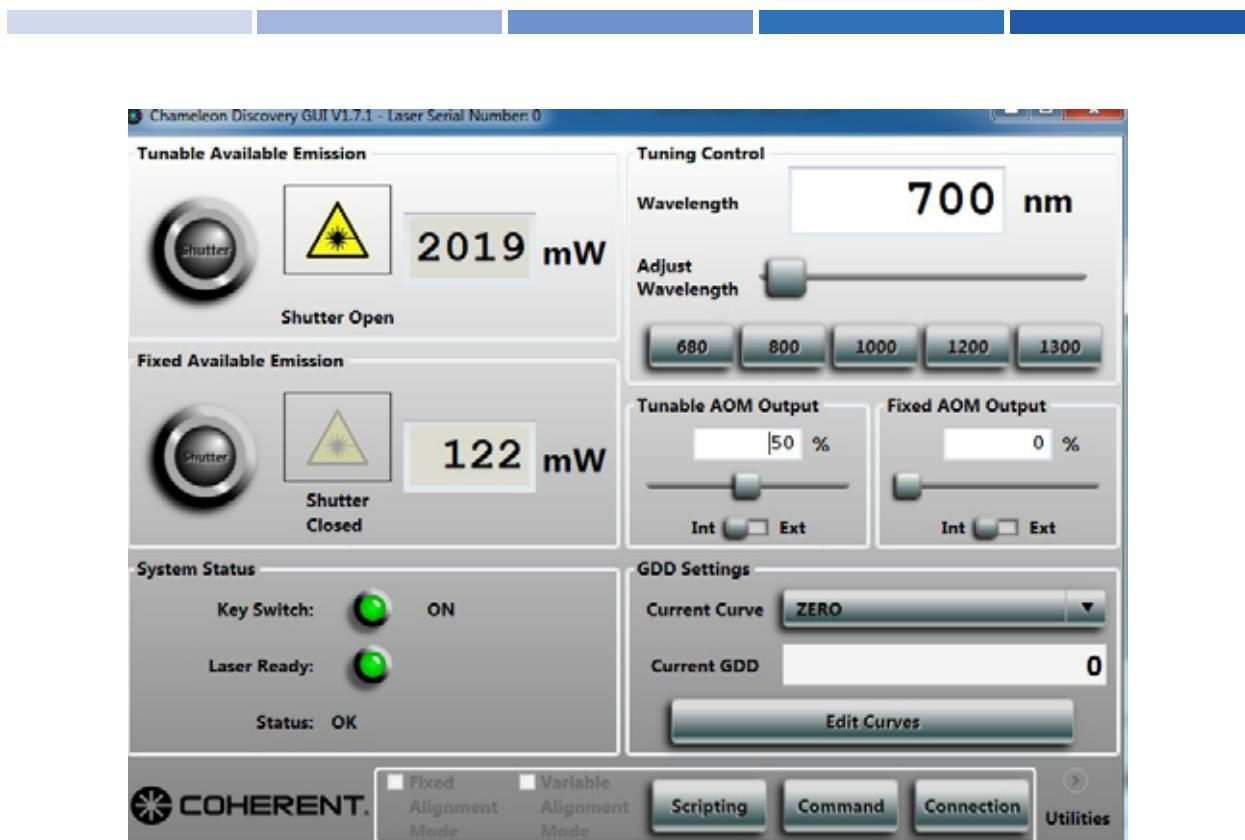

Figure 1.2-23. Customer GUI
- Open the customer GUI and demonstrate the connection and control options, see Figure 1.2-23.